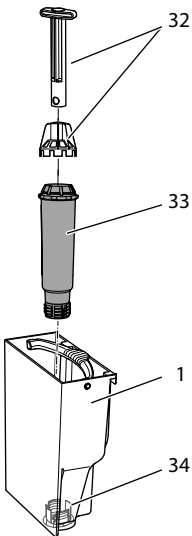

Fig. 19: Screwing/Unscrewing the water filter
- Remove the water filter (see Fig. 19 on page 53).
9. Insert a new filter in the water tank (see Fig. 19).
3. Remove the water filter (see Fig. 19).